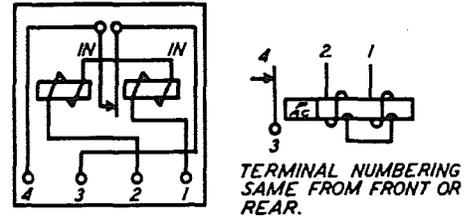

FIG. 18- WINDING AND SPRING TERMINAL ARRANGEMENT AS VIEWED FROM THE FRONT (CONTACT SIDE)- 150 TYPE RELAY
2.35 The contact and winding terminals are numbered consecutively from right to left facing the front end of the relay as shown in Fig. 18.